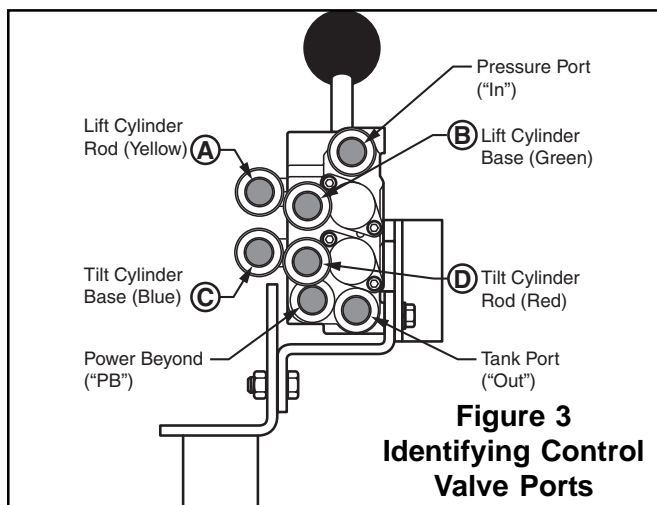

Figure 3
1. Install 9/16 x 9/16 x 90° elbow fittings (7) into working ports A and C of valve (1). Orient elbow fittings (7) parallel with valve body to point in same direction as valve ports B and D, then tighten jam nuts to lock elbows in position. Install 9/16 x 9/16 straight fittings (8) into working ports B and D of valve (1). Install 9/16 x 3/8 straight fittings (9) into fittings (7 & 8) and install female quick couplers (10) and large identification bands (11) onto straight fittings (9).
NOTE: Be sure to attach color-coded identification bands (11) in sequence shown in Figure 3.
2. Fasten valve mounting plate (12) to valve mounting tube (13) using 3/8 x 2-1/4" cap screws (14) and lock nuts (15). Insert square plug (16) into top of valve mounting tube (13).
3. Fasten valve (1) to valve mounting plate (12) with tank and power beyond ports to bottom using 5/16 x 3/4" cap screw (22) and lock washer (23) in top, front mounting hole in valve. Fasten valve shield (17) to valve (1) through mounting plate (12) using 5/16 x 1" cap screws (21) and 5/16" lock washers (23) in bottom two mounting holes in valve.
PLUMBING CONTROL VALVE TO TRACTOR HYDRAULICS (Figures 3, 4 & 5)
PLUMBING LOADER TO CONTROL VALVE (Figures 3 & 5)